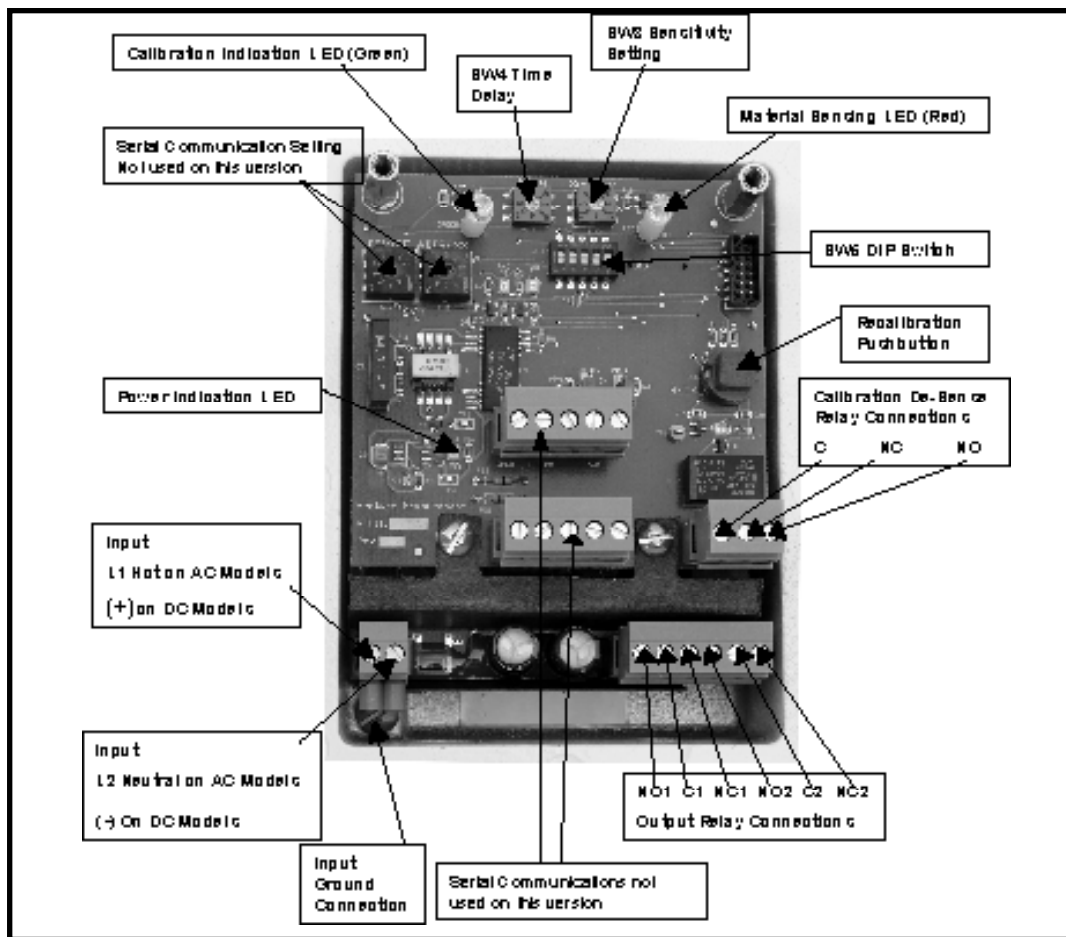
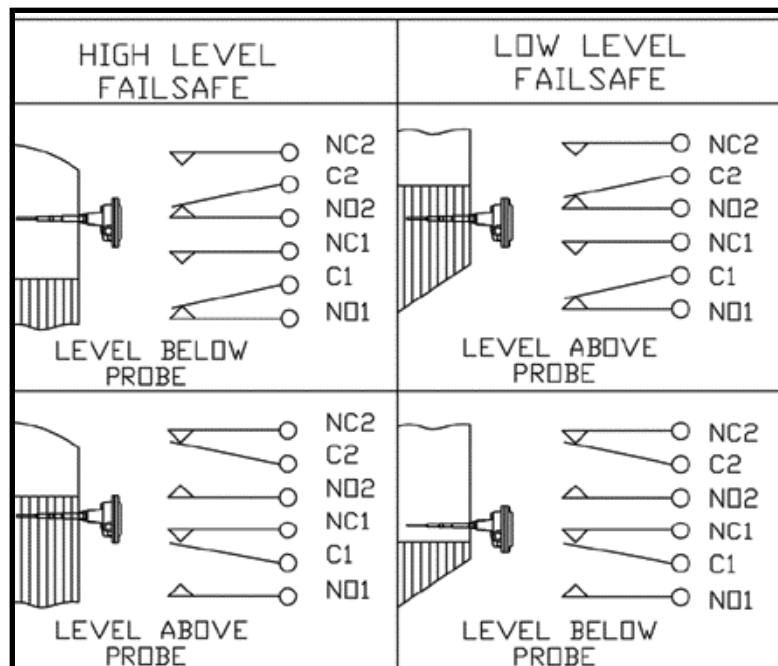

Figure 1. VRF-2000 Electronics
Figure 2. High/Low Level Failsafe
See Figures 1 and 2 in section 4.2 for location of input and output wiring.
See Figure 1 for location of input and output terminal blocks. Agency approved insulated barrel type terminals are supplied in the input terminal block to provide additional safety. These terminals must be used in order to maintain approval requirements. See Figure 2 for output contact positions during stages of operation.
IMPORTANT! An electrical earth ground connection must be made to the housing input ground screw. See Figure 1 for location. This connection is needed for both electrical safety and proper operation of the unit. This is required for both AC and DC units.
The VRF-2000 features EZ-CAL[®] II. This feature consists of three parts. First, is an automatic calibration when the unit is first powered up. This should be done when no material is present at the probe. Second, is an automatic recalibration if the VRFTM electronics senses that the capacitance of the probe circuit has decreased significantly from what it was when it was last calibrated. Third, is the ability to manually recalibrate by momentarily pushing the recalibration pushbutton. See Figure 1 in section 4.2. The VRF-2000 is shipped from the manufacturer with the automatic calibration/recalibration feature enabled. If only manual pushbutton calibration/recalibration is desired, set SW5 DIP switch position 4 to off.
If the unit is powered on the bench prior to installation, or moved from one installation to another, recalibration is required. Momentarily press the recalibration pushbutton. See Figure 1 in section 4.2 for location. The green calibration indication LED will go off, and after 3 seconds illuminate to indicate calibration is complete.
- Check for proper input voltage. If correct, the "Power Indication LED" should be illuminated. See Figure 1 in section 4.2 for location.